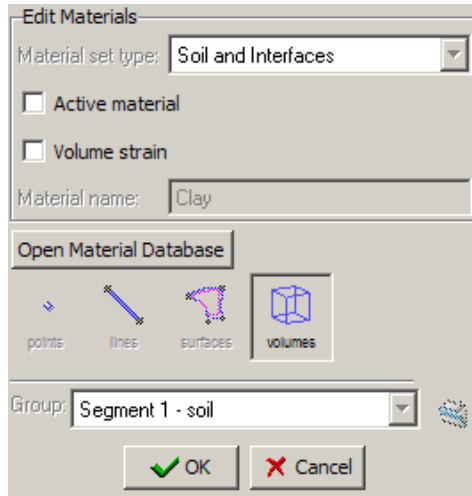

Figure 1.14 The *Edit Materials* window
- To de-activate the soil in the first tunnel segment double click the second group in the *Materials* subtree ("*Segment 1 - soil*") to open the *Edit Materials* window (see Figure 1.14). Unselect the option *Active material* and click the *OK* button.